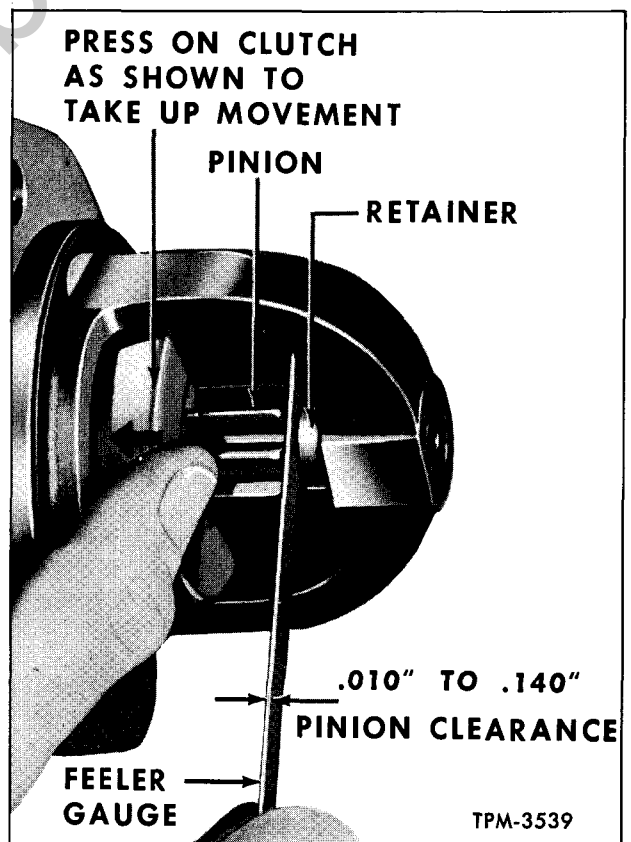

Figure 6—Measuring Pinion Clearance (Light and Intermediate Duty) (Typical)
c. After energizing the solenoid with the clutch shifted forward, push the pinion back toward the commutator as far as necessary to take up any possible slack, then check the clearance with a feeler gauge as shown in figure 6. If not within 0.010" to 0.140", disassemble and replace worn parts in solenoid and shift lever linkage.